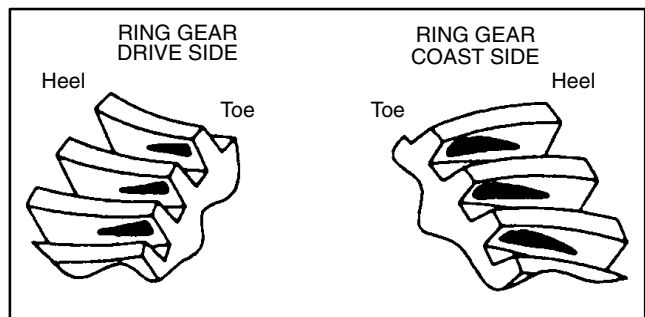

Figure 63
2. While applying a light load to the ring gear, rotate the pinion gear until the ring gear has made one complete revolution. Both the drive side pattern and the coast side pattern on the ring gear should be at the toe portion of the tooth (Fig. 63).